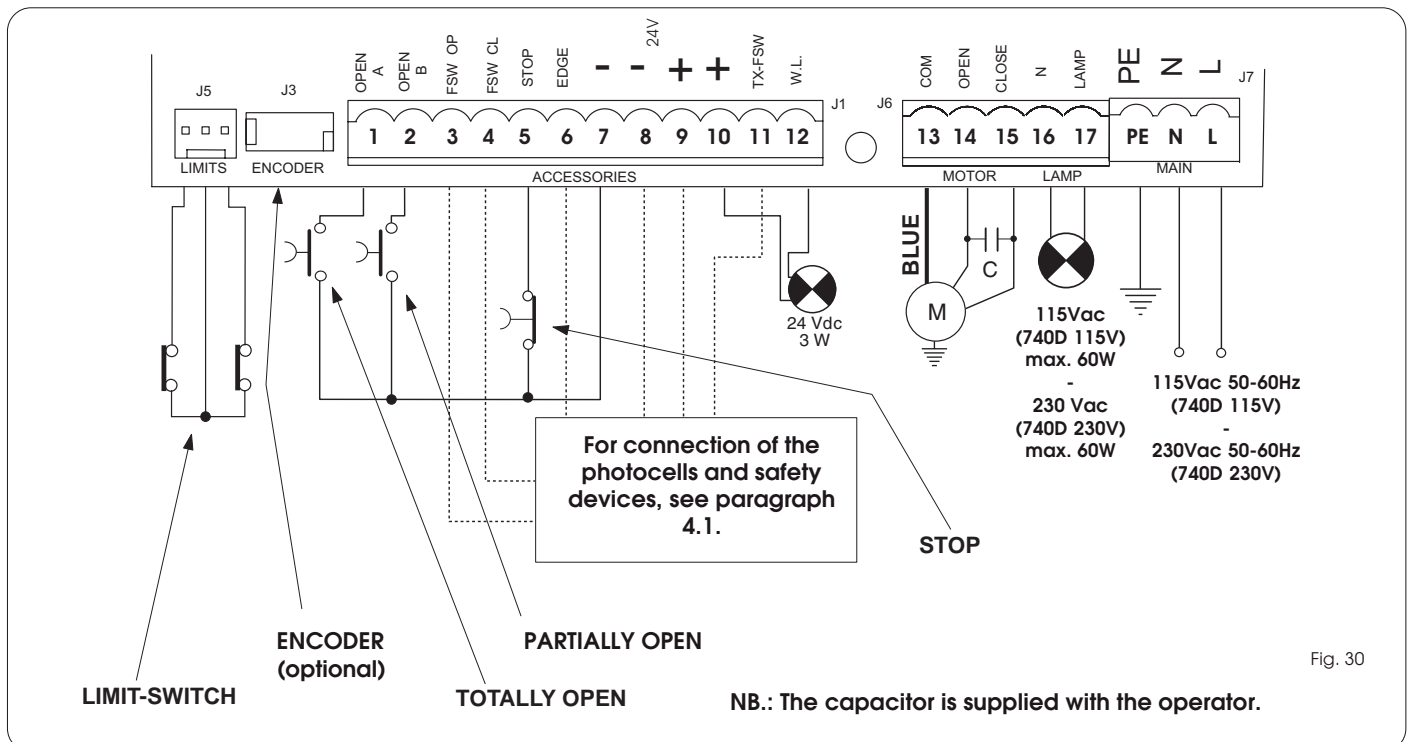

Fig. 30
- Connect the earth cable to the appropriate terminal on the J7 connector of the equipment (see fig. 30).
#### 4.2. J7 Terminal board - Power supply (fig. 30)
#### 4.3. J6 Terminal board - Motors and flashing lamp (fig. 30)
#### 4.4. J1 Terminal board - Accessories (fig. 30)
#### 4.6. Connector J6 - Limit-switches rapid connection (fig. 30)
This input is intended for rapid connection of the opening and closing limit-switches designed to stop the leaf, or for start of decelerations or for braking (see advanced programming in Par. 5.2.). In gearmotors with a built-in control unit, this connection is pre-wired as standard (fig. 30). For leaf opening direction, see advanced programming in Par 5.2.
#### 4.7. Connector J3 - Encoder rapid connection (fig. 30)